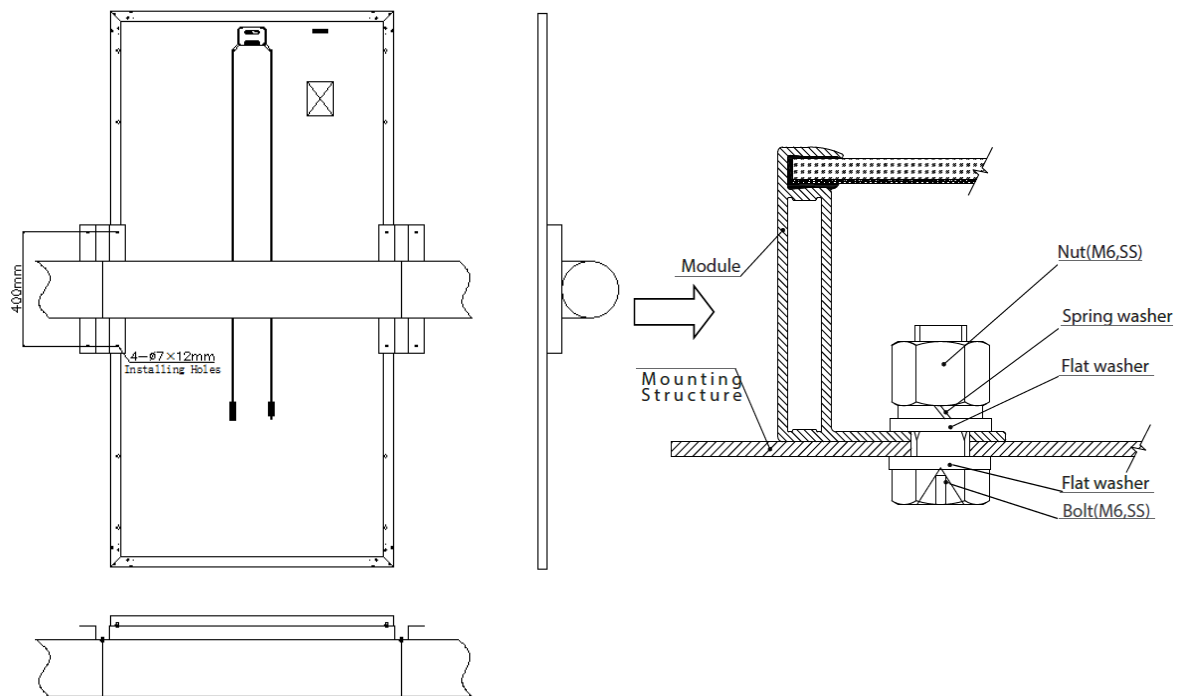

Figure 7
3. The frame of each module has 4- $\phi 7 \times 12\text{mm}$ mounting holes with specific location shown in Figure 7.